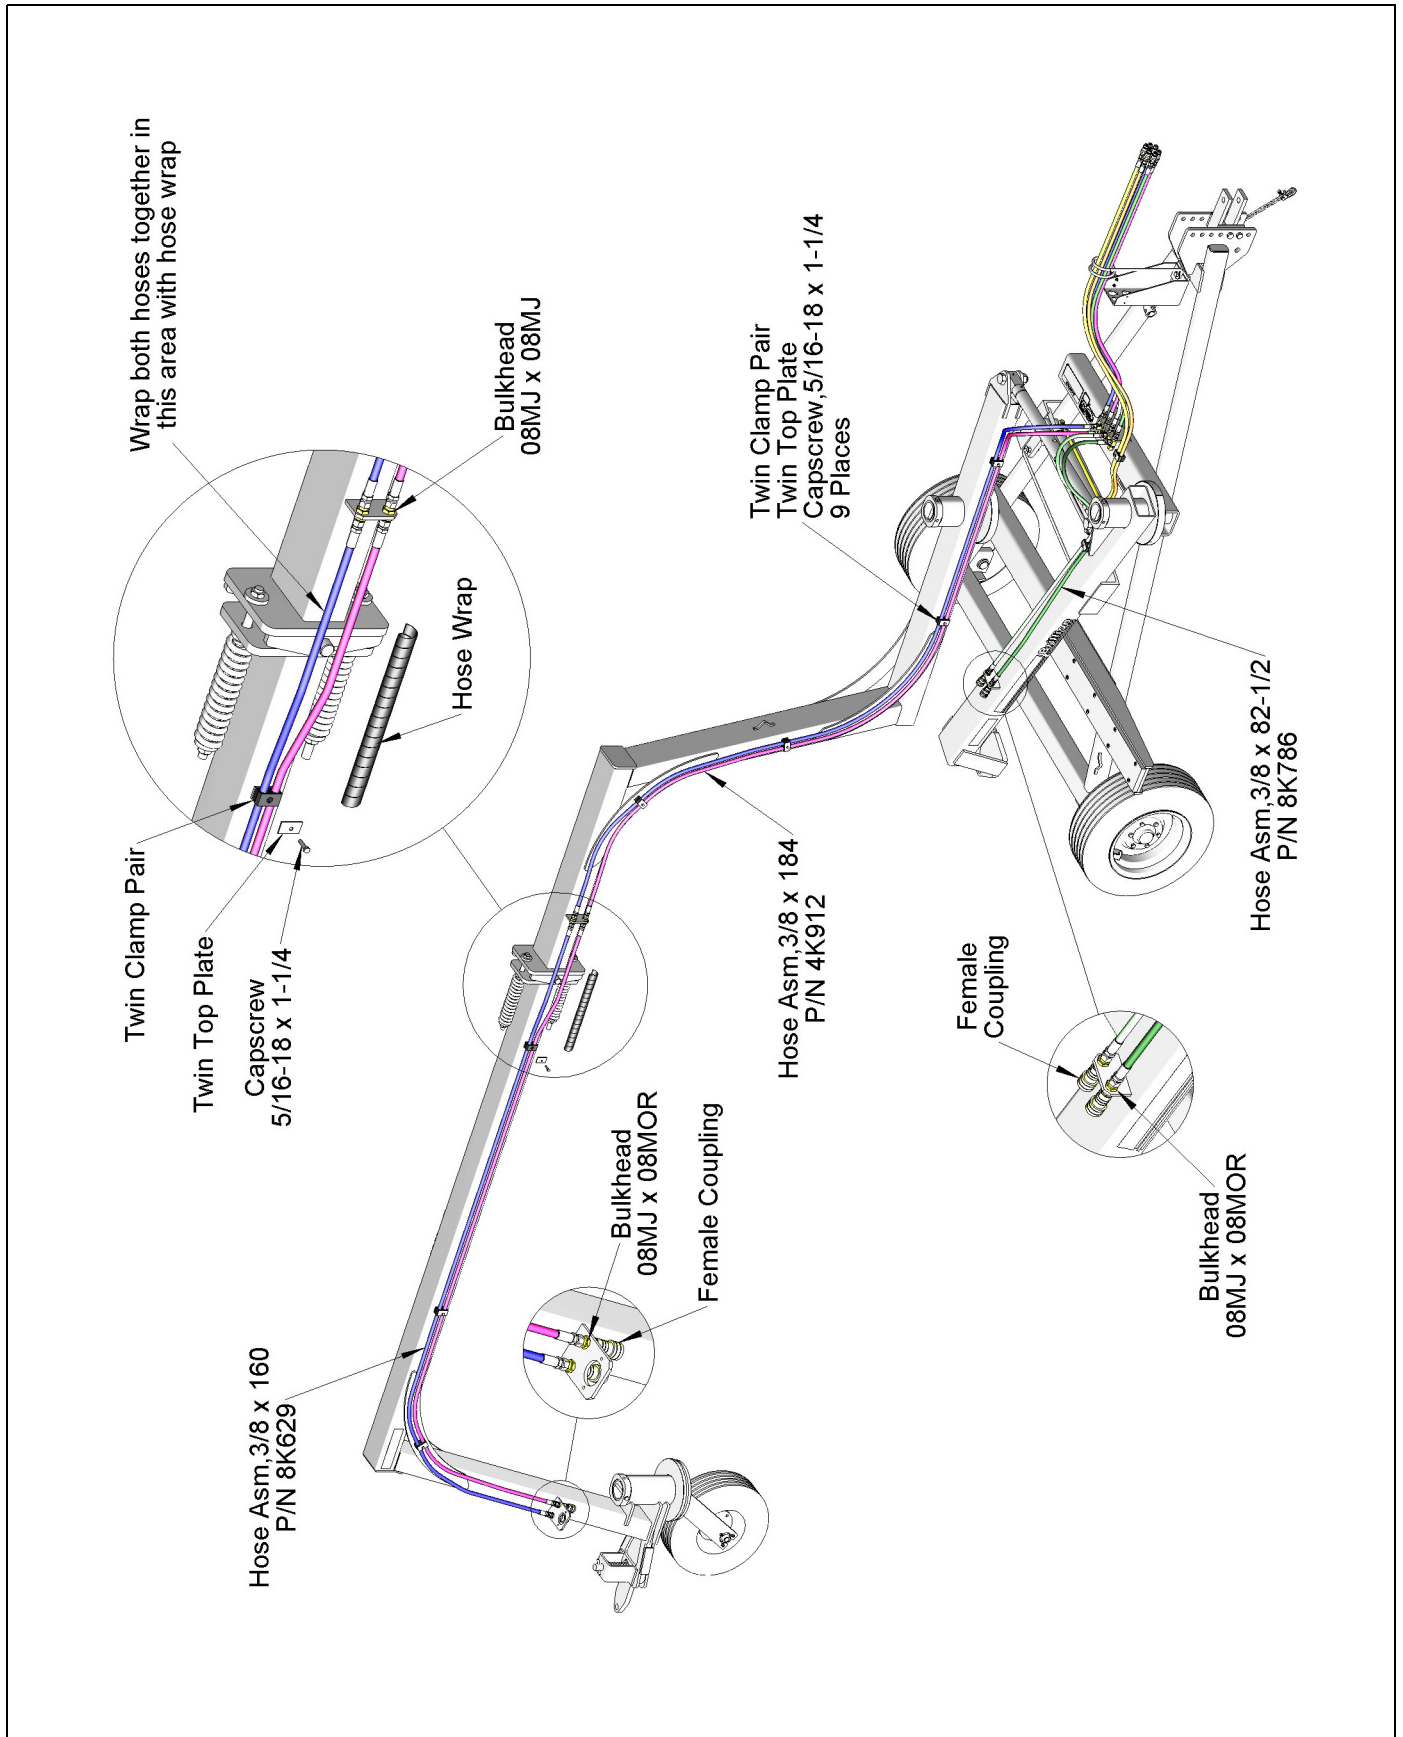

Figure 2-10: Hydraulic Hose Installation - 1 of 2
1. Lube all o-ring connections. Install the hydraulic fittings. See Figures 2-10 and 2-11.
2. Starting at the Rear Hitch bulkhead plate just above the Caster Wheel, Install the Hydraulic Hoses. See Figures 2-10 and 2-11.
3. To prevent excess wear, wrap the two hoses near the spring cushion with Hose Wrap. See Figure 2-10.